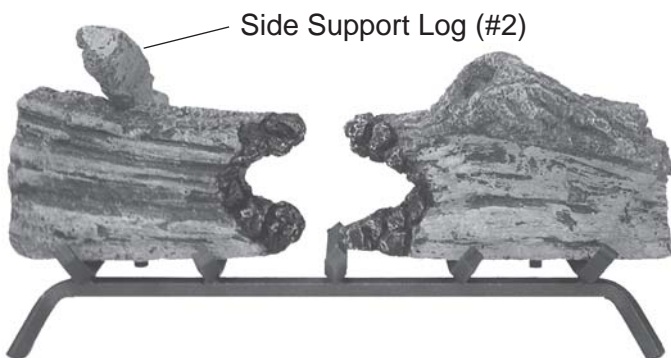

Figure 104 - Placing Side Support Log (#2) on Top Left of Log #1A
4. Place front end of Side Support Log #2 on top left of Log #1A. Rest other end of Log #2 on rear grate bar. See Figure 104.